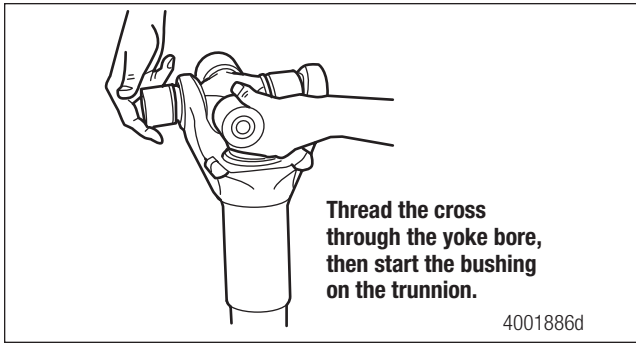

Figure 5.18
2. Position the first bushing onto the trunnion by threading the cross trunnion through the yoke bore. Figure 5.18.